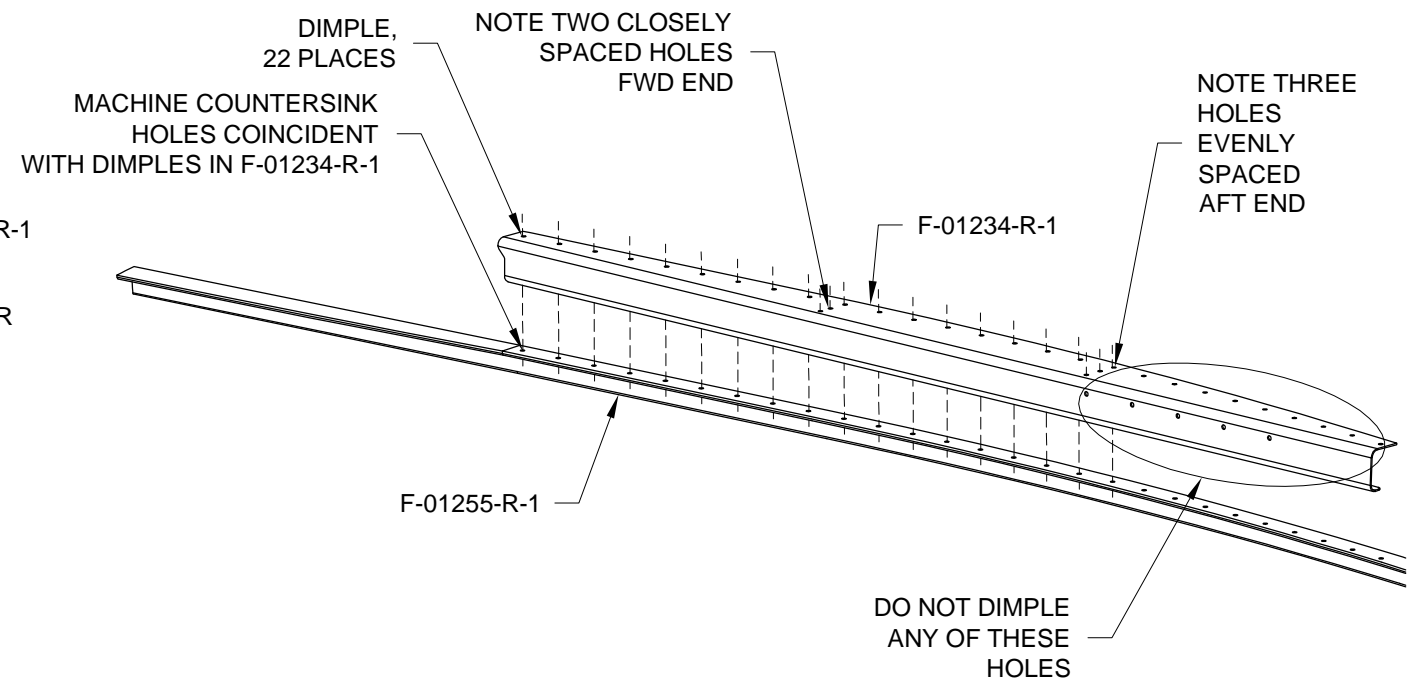

FIGURE 4: COUNTERSINKING CANOPY DECK
Step 6: Dimple the holes in F-01234-R-1 except as indicated in Figure 4.